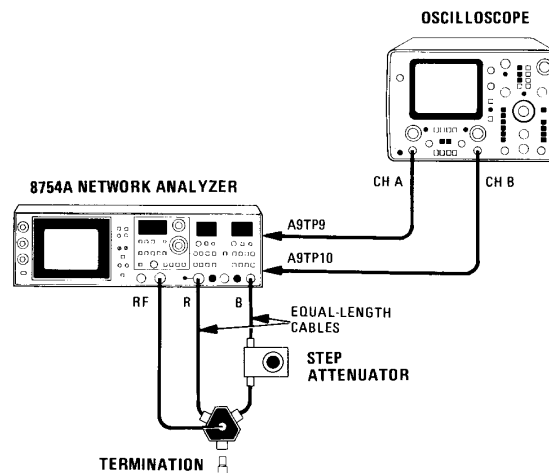

Figure 5-35. Phase Detector Limiters Adjustment Test Setup
- a. Remove A9 Phase Detector assembly and place on 22-pin extender board. Connect equipment as shown in Figure 5-35. Connect oscilloscope CH A to A9TP9 A, B LIM using 10:1 probe. Connect oscilloscope CH B to A9TP10 A, B IF using 10:1 probe. Set attenuator to 10 dB.
- n. Remove A10 Polar Converter assembly and place on 22-pin extender board. Connect equipment as shown in Figure 5-35, except that R and B inputs should be reversed (i.e., power splitter to B, step attenuator to R). Connect oscilloscope CH A to A10TP12 R LIM and CH B to A10TP9 R IF. Set attenuator to 10 dB.